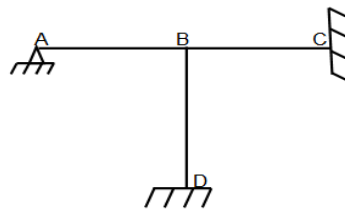

Fig.1
- b. Determine the degree of kinematic indeterminacy for the rigid frame shown in Fig.1.